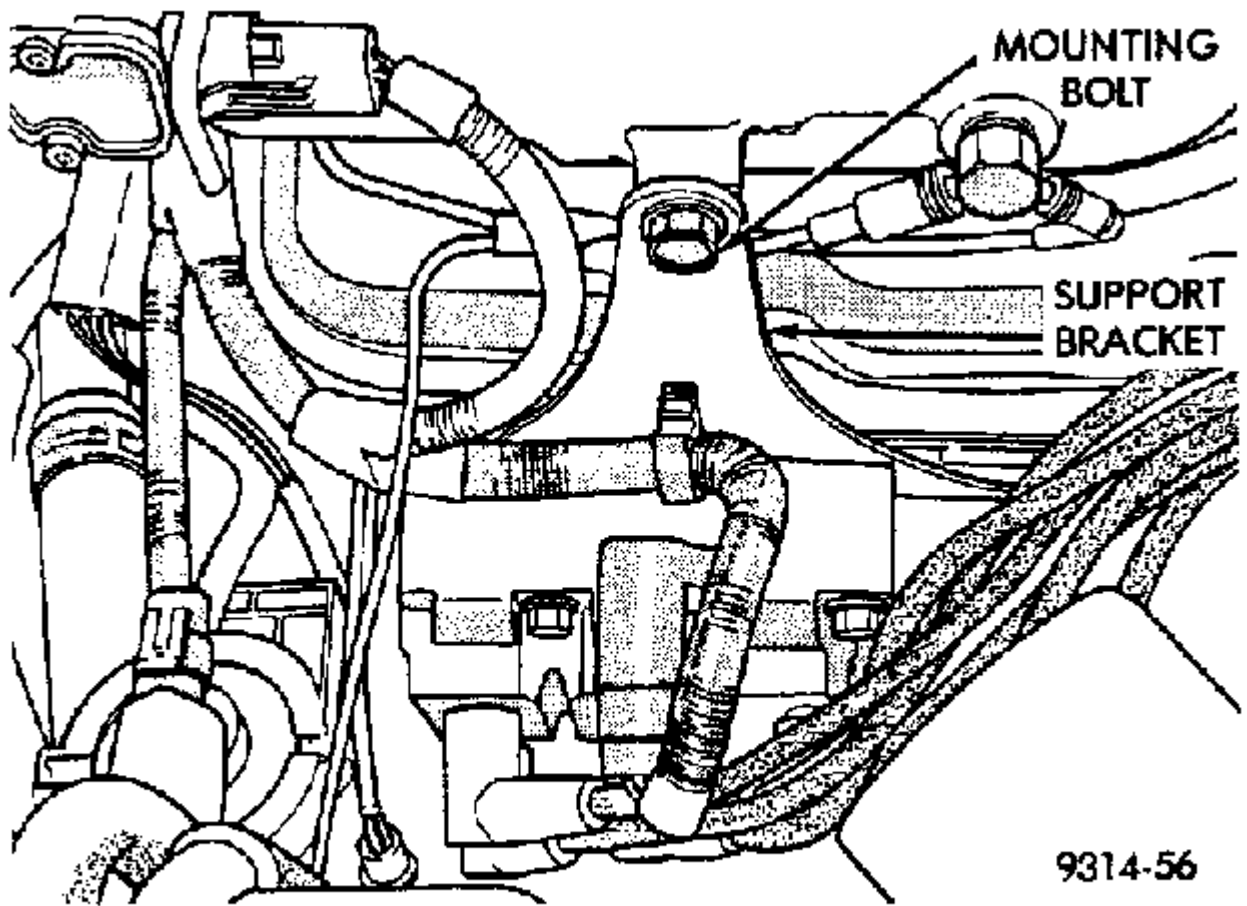

Figure 6
30. Install the air intake plenum support bracket bolt on each side of the manifold (Figure 6). Tighten the bolts to 250 in-lbs (28 N•m).